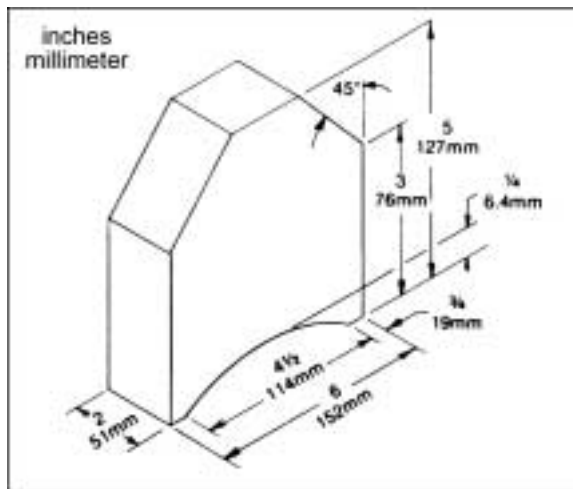

Figure 13
3. If a dial gauge is not available, use a finished block of wood with notches cut out for the table rolls, in conjunction with a feeler gauge. See Figure 13 for an example of a wood block you can make and use as a gauge.
Use a gauge, such as a bed and feed roll gauge or wood gauge block (see Figure 13) to check the outfeed roller in the same manner as for the infeed roller. Adjust as necessary using the screws (E, Figure 15). When finished adjusting, tighten the hex nuts on the screws.